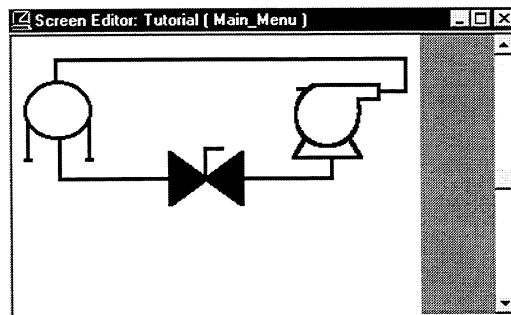

Figure 4-8. Symbols Connected by a Line
5. To reposition the symbol, position the cursor on it, click and hold the mouse button, and drag it to the center of the screen. Then release the mouse button. See Figure 4-8.
7. To reposition the pump/vessel, position the cursor on it, click and hold the mouse button, and drag it to the right/left side of the screen. Then release the mouse button. See Figure 4-8.
11. To connect the three symbols, as shown in Figure 4-8, click on a starting point (either the top or bottom of a symbol) and drag the mouse to the first point the line will change direction and click to set the point.